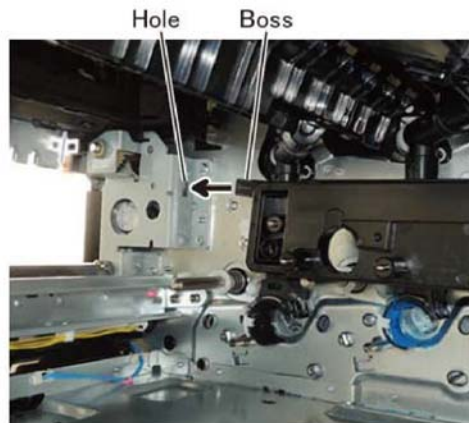

Figure 5 Conductor housing assembly install
- When installing the conductor housing assembly, insert the boss at the rear of the conductor housing assembly into the installation hole, Figure 5.